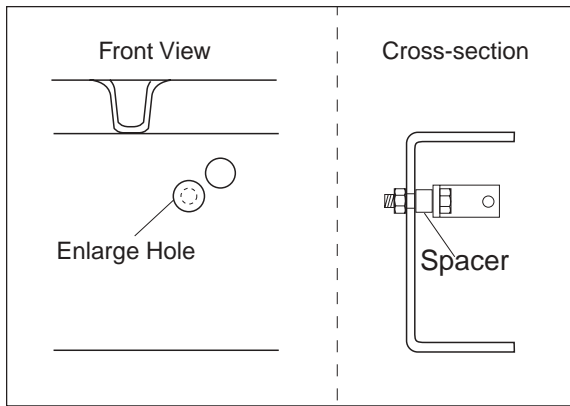

Figure 7
- b. Enlarge the hole just below and slightly forward of the existing attachment. Use a  $\frac{3}{8}$ " drill bit to enlarge the hole (Figure 7, front view).
- c. Place the provided spacer (P) on the bracket side of the threads and then reattach the brake line bracket using the original nut (Figure 7, cross-section). This will not compromise the brake line in any way.